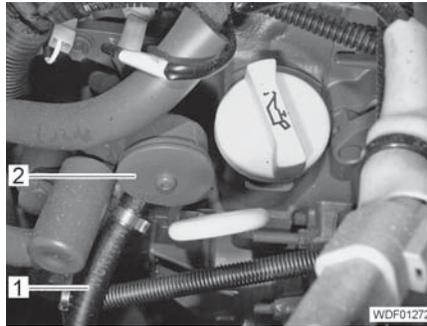

Fig. 19 Fuel line
- Close off and separate the fuel line (Fig. 19,1) ahead of the sieve filter (Fig. 19,2) (e.g. using a hose clamp).